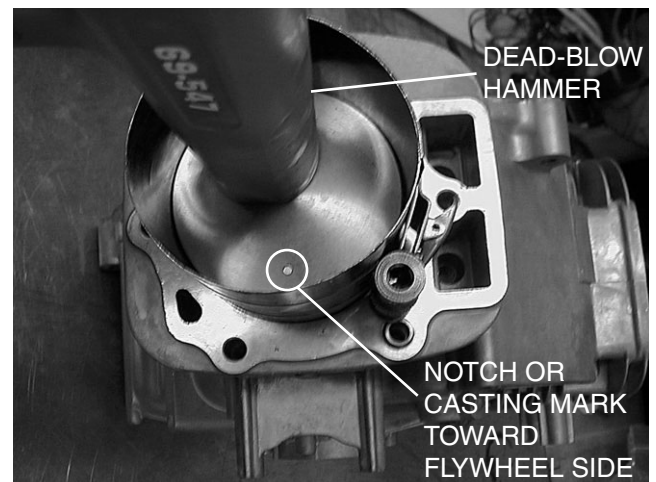

Figure 13-3. Installing Piston And Connecting Rod
3. Install #1 piston with notch or casting mark towards fly-wheel side, Figure 13-3.